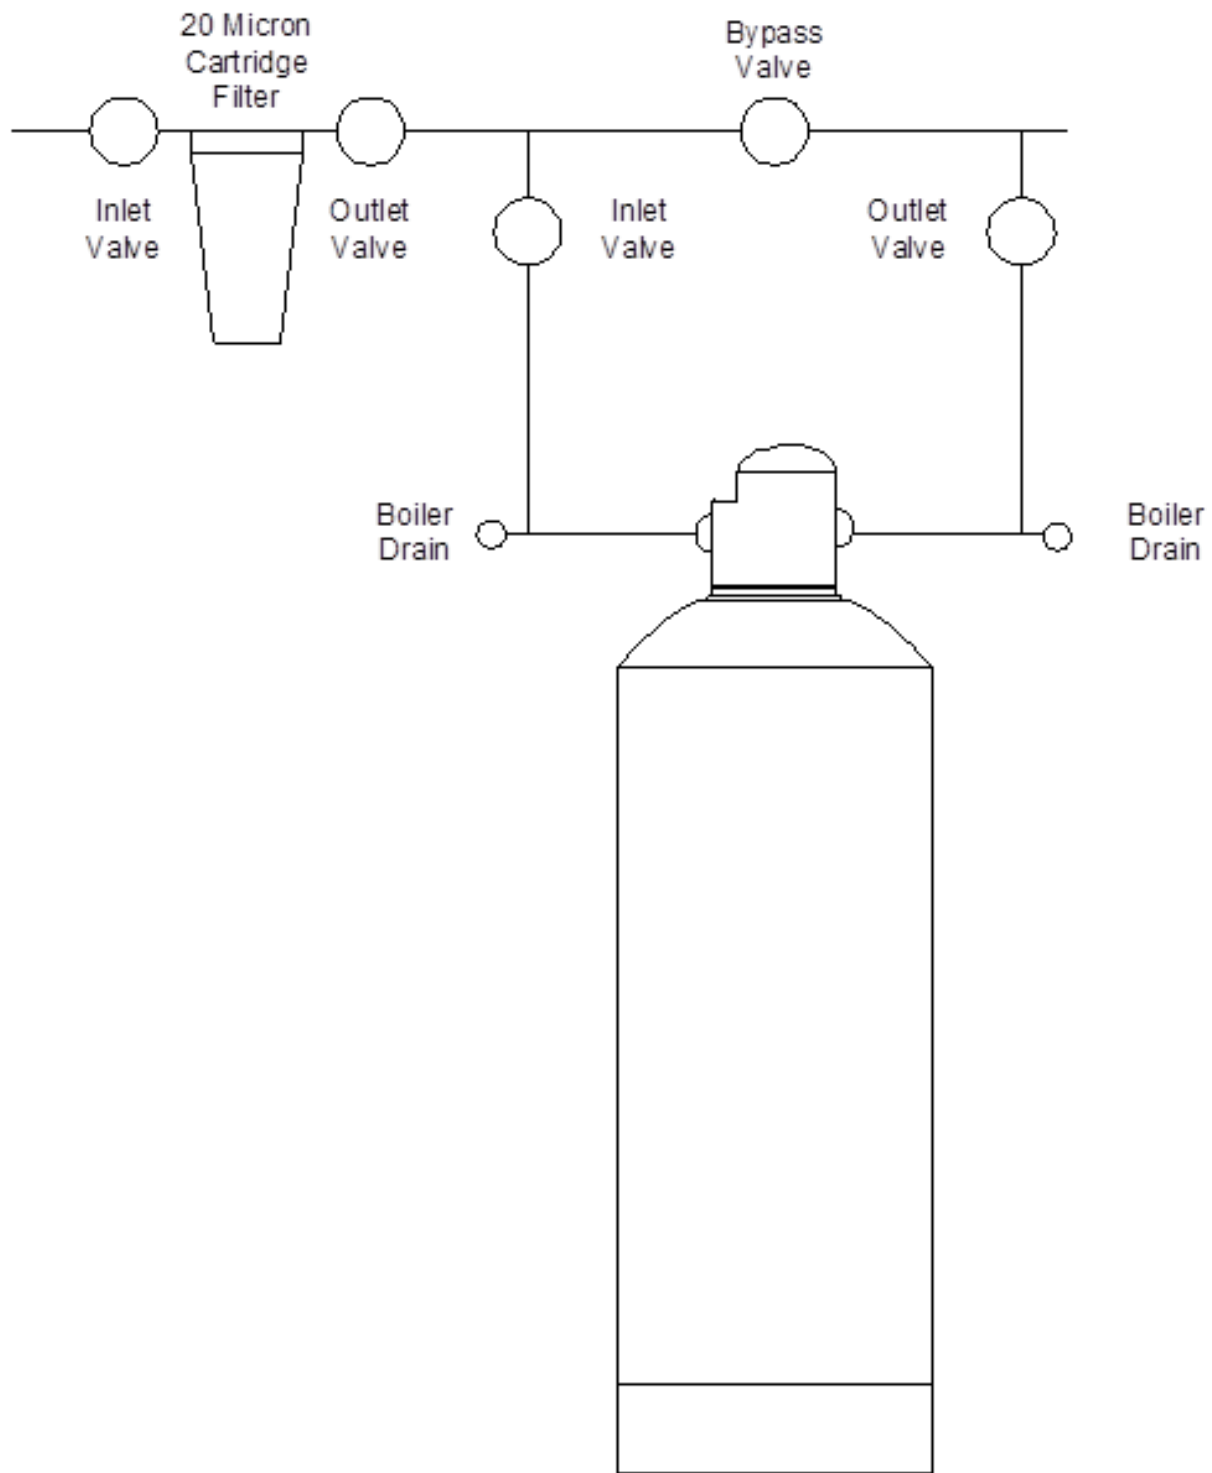

Figure 1. Installation and Piping Schematic
3. Pipe a boiler drain into the inlet and outlet piping as shown in Figure 1.